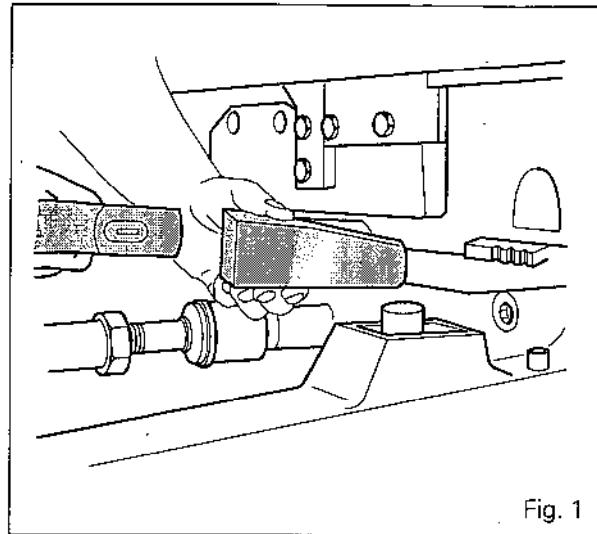

Fig. 1
- . wedge between the frame and the front axle (Fig. 1)